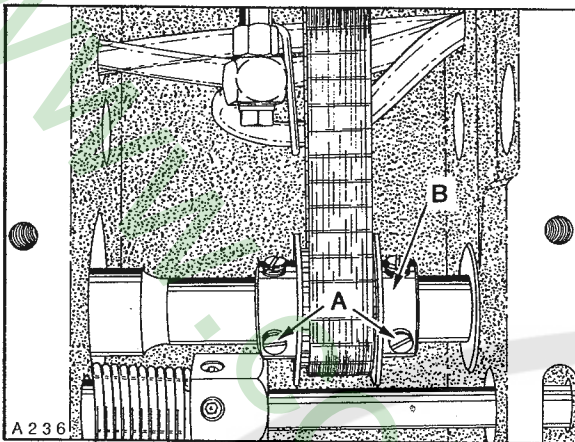

Fig. 33
The Close-Coupled Puller (BELT or ROLLER) must be timed so the intermittent feeding action stops before the needle/s is/are entering the work. NOTE: This will depend on the thickness of material and stitch length being sewn. If adjustment is required, remove top cover which is secured with four screws. Loosen four set screws (A, Fig. 33) in sprocket (B). Advance or retard sprocket on shaft as required. When proper timing is obtained, position sprocket on its shaft (left or right) so drive belt is centered in the puller drive assembly. Torque four screws (A) to 35 in-lbs (40 cm/kg).